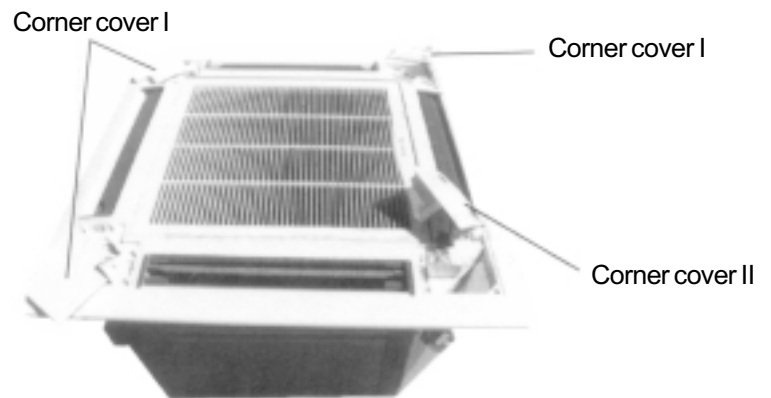

Figure 6
- ③ Disassemble the drain pan.
- Remove the screw on the control box cover I as shown in figure 6.